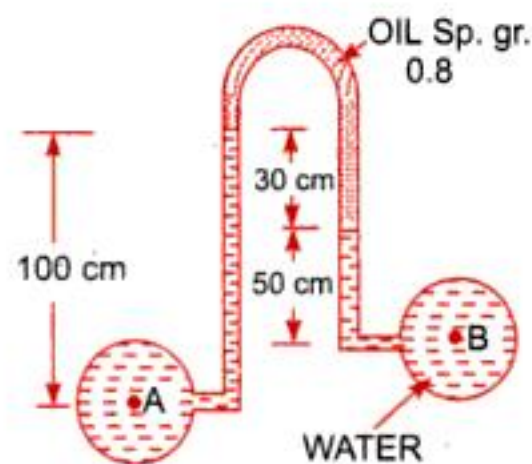

Fig. 2.26
16. In above Fig. 2.26 shows an inverted differential manometer connected to two pipes A and B containing water. The fluid in manometer is oil of sp. gr. 0.8. For the manometer readings shown in the figure, find the difference of pressure head between A and B. [Ans. 0.26 m of water]